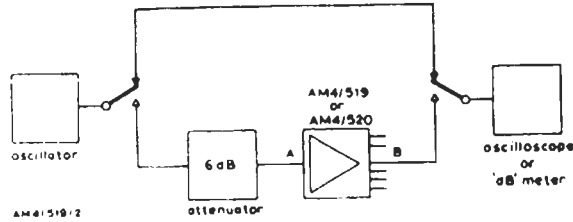

Fig. 2 Test Arrangement for the AM4/519 and AM4/520
1. Connect the apparatus as shown in Fig. 2 and ensure that all outputs of the amplifier are terminated with 75 ohms.
7. Check the d.c. output level as in (3) above and readjust as necessary.
Note: For tests 5 and 6 it is essential to check the zero of the test circuit by comparing the two branches when the amplifier under test is replaced by a short link between the points A and B (Fig. 2).